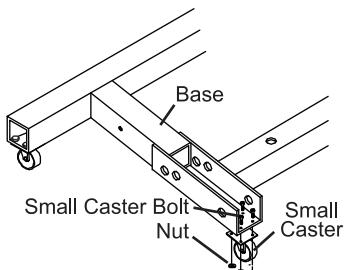

Figure 2
- To attach two Small Casters (21) to the front section of the Base, align the four mounting holes in each Small Caster with the four mounting holes on the underside of each base end. Secure in place using four Small Caster Bolts (22) and Nuts (16). See Figure 2.